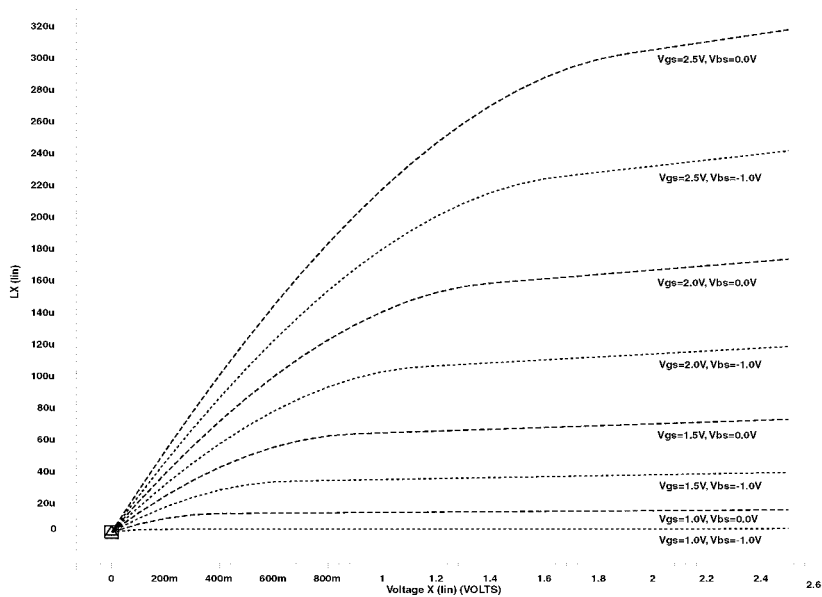

Figure 0.8 I-V curves
12. [E, None, 3.3.2] Below in Figure 0.8 is an I-V transfer curve for an NMOS transistor. In this problem, the objective is to use this I-V curve to obtain information about the transistor. The transistor has $(W/L) = (1\mu/1\mu)$. It may also be assumed that velocity saturation does not play a role in this example. Also assume $-2\Phi_F = 0.6V$. Using Figure 0.8 determine the following parameters: device V_{TO} , γ , λ .